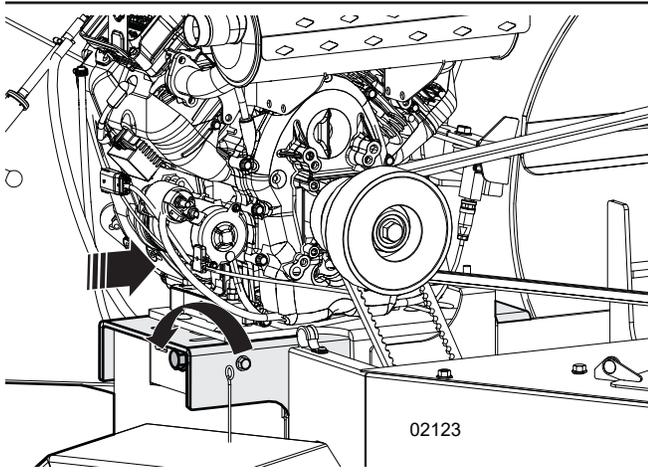

Figure 49 – Rotor drive-belt tensioning bolt - counterclockwise
3. Turn the rotor drive-belt tensioning bolt counterclockwise to remove tension from the rotor drive belt. See *Figure 49 on page 70*.
- Counterclockwise to decrease tension on the drive belt. See *Figure 49*.